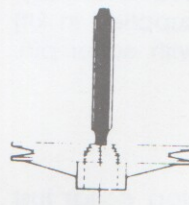

FIG. 9
13. Prior to installing inspection cover, check that the drive tire is centered on the drive disc, when speed control is in neutral (see Fig. 9).